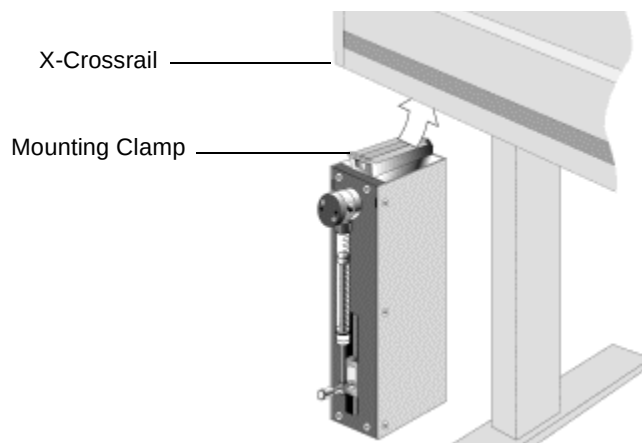

Figure 2-27 Attaching the Dilutor to the X-Crossrail
4. Install the dilutor module with the mounting clamp teeth fitting into the grooves on the bottom of the X-crossrail (Figure 2-27). Mount the dilutor at the left end of the X-crossrail. Be sure that the clamp fits completely into the grooves. Tighten the TORX screw until the mounting clamp is firmly in place.